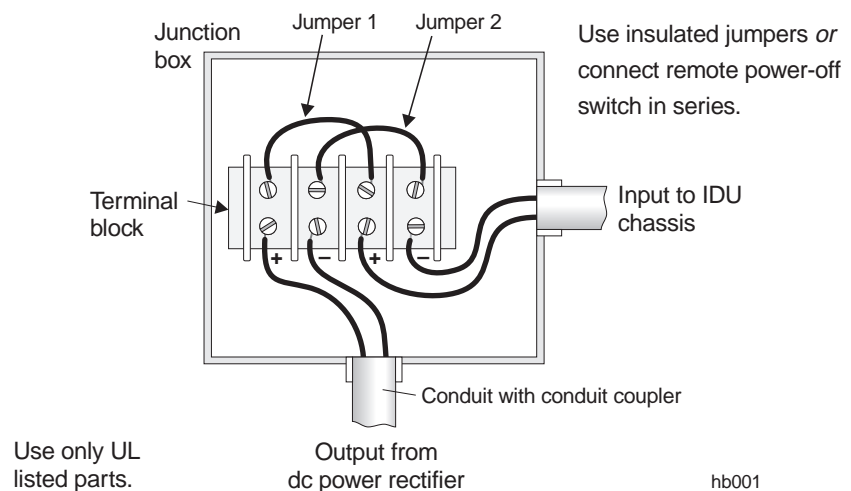

Figure 3-12 Remote power-off circuit
2. Install a UL-approved terminal block inside a UL-approved electrical junction box as shown in figure 3-12.
8. Open the switch again. Confirm that the chassis is no longer powered. If the switch does not operate correctly, turn the rectifier breaker off and make sure the circuit is connected as shown in figure 3-12.